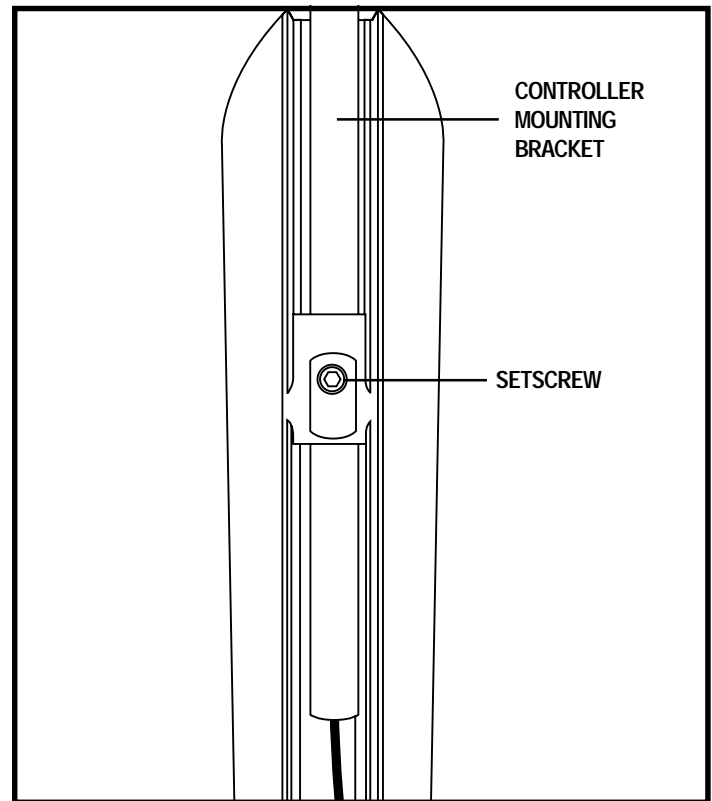

Figure 18. Controller Extension
2. Loosen the setscrew. See figure 18.